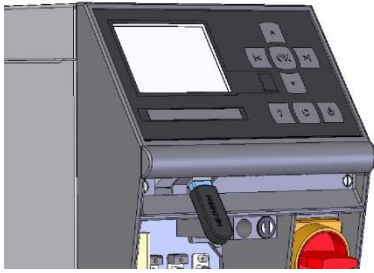

Fig. 79: Connect USB data carrier
2. Connect USB data carrier (Fig. 79).